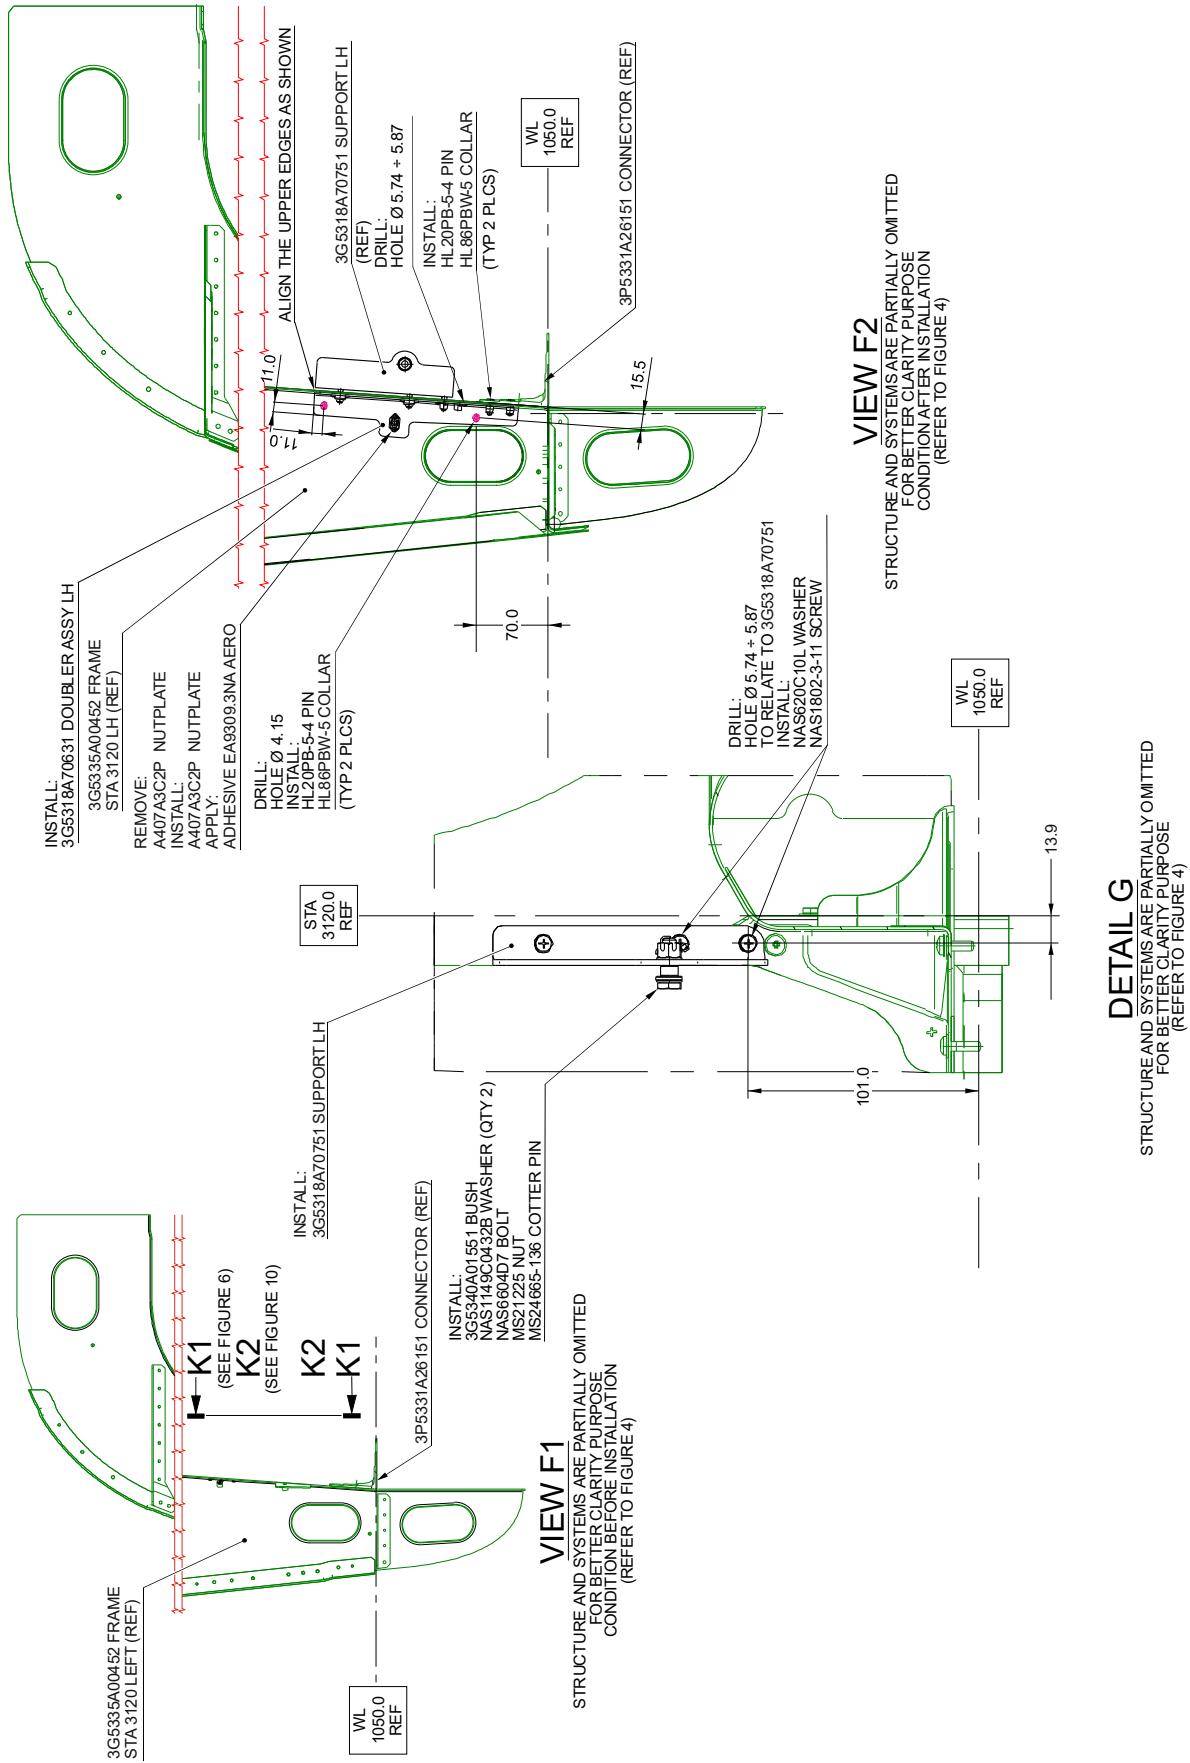
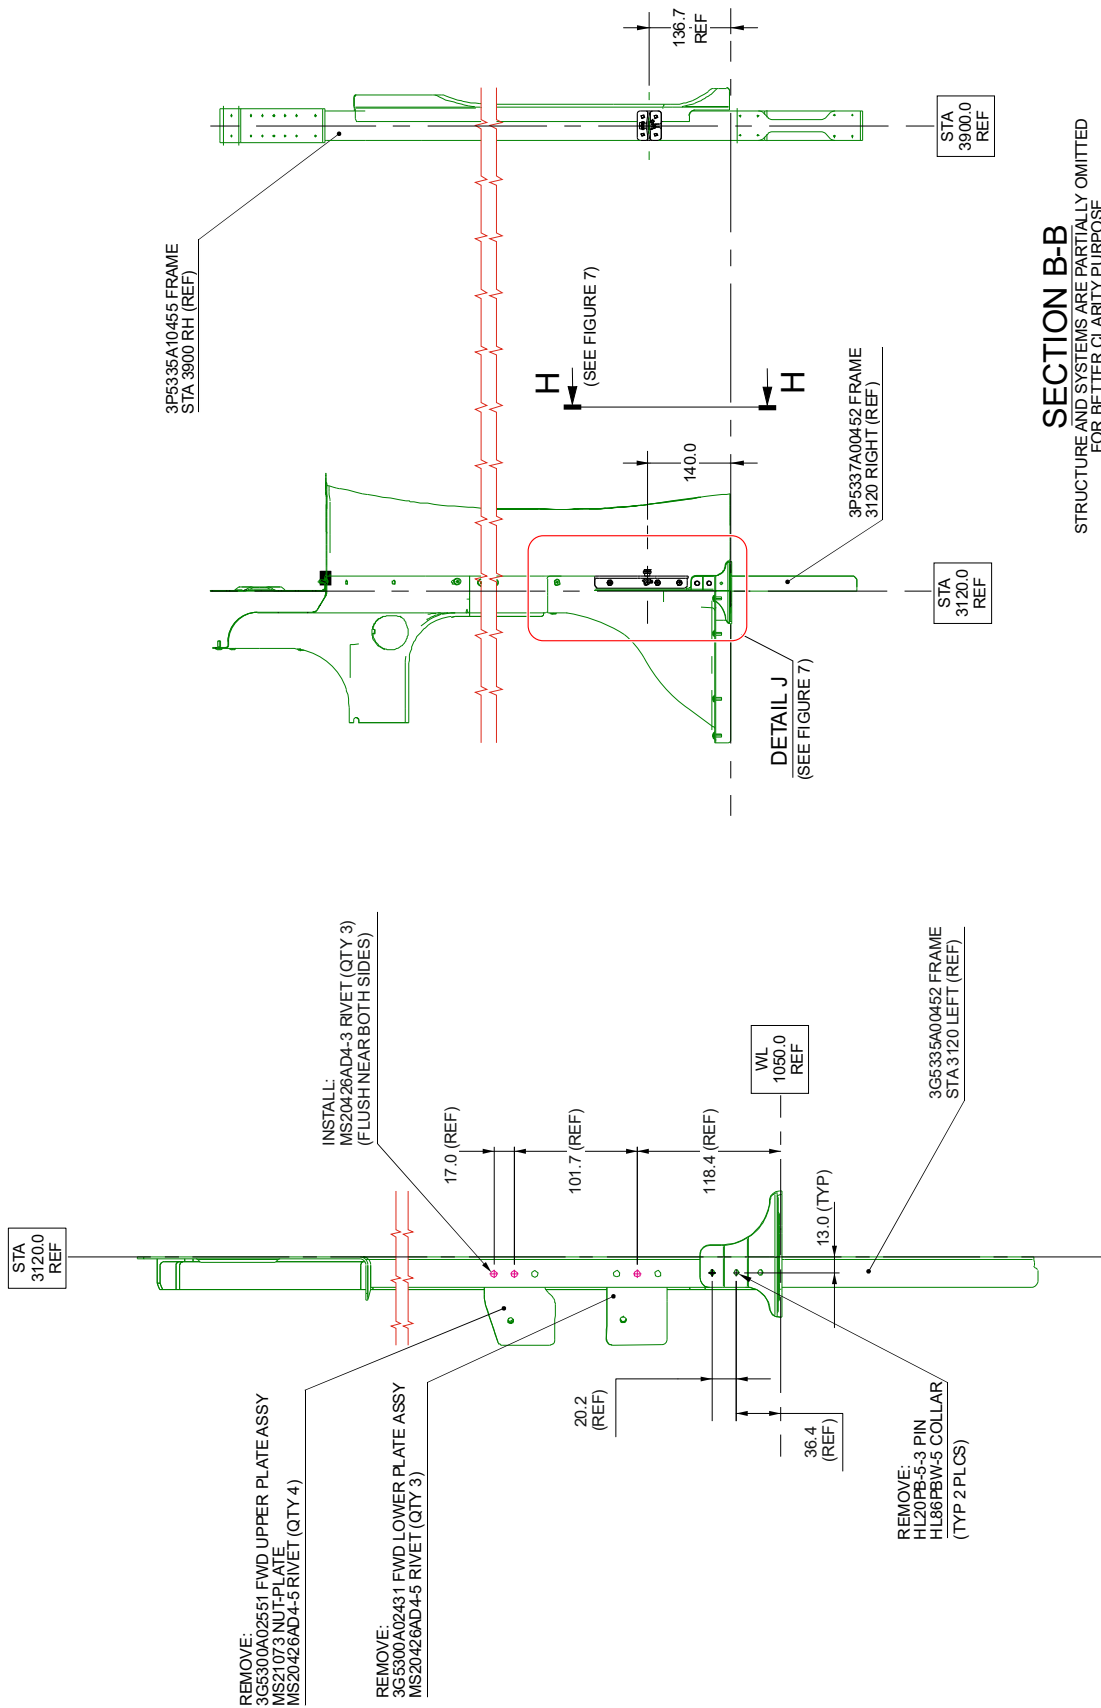
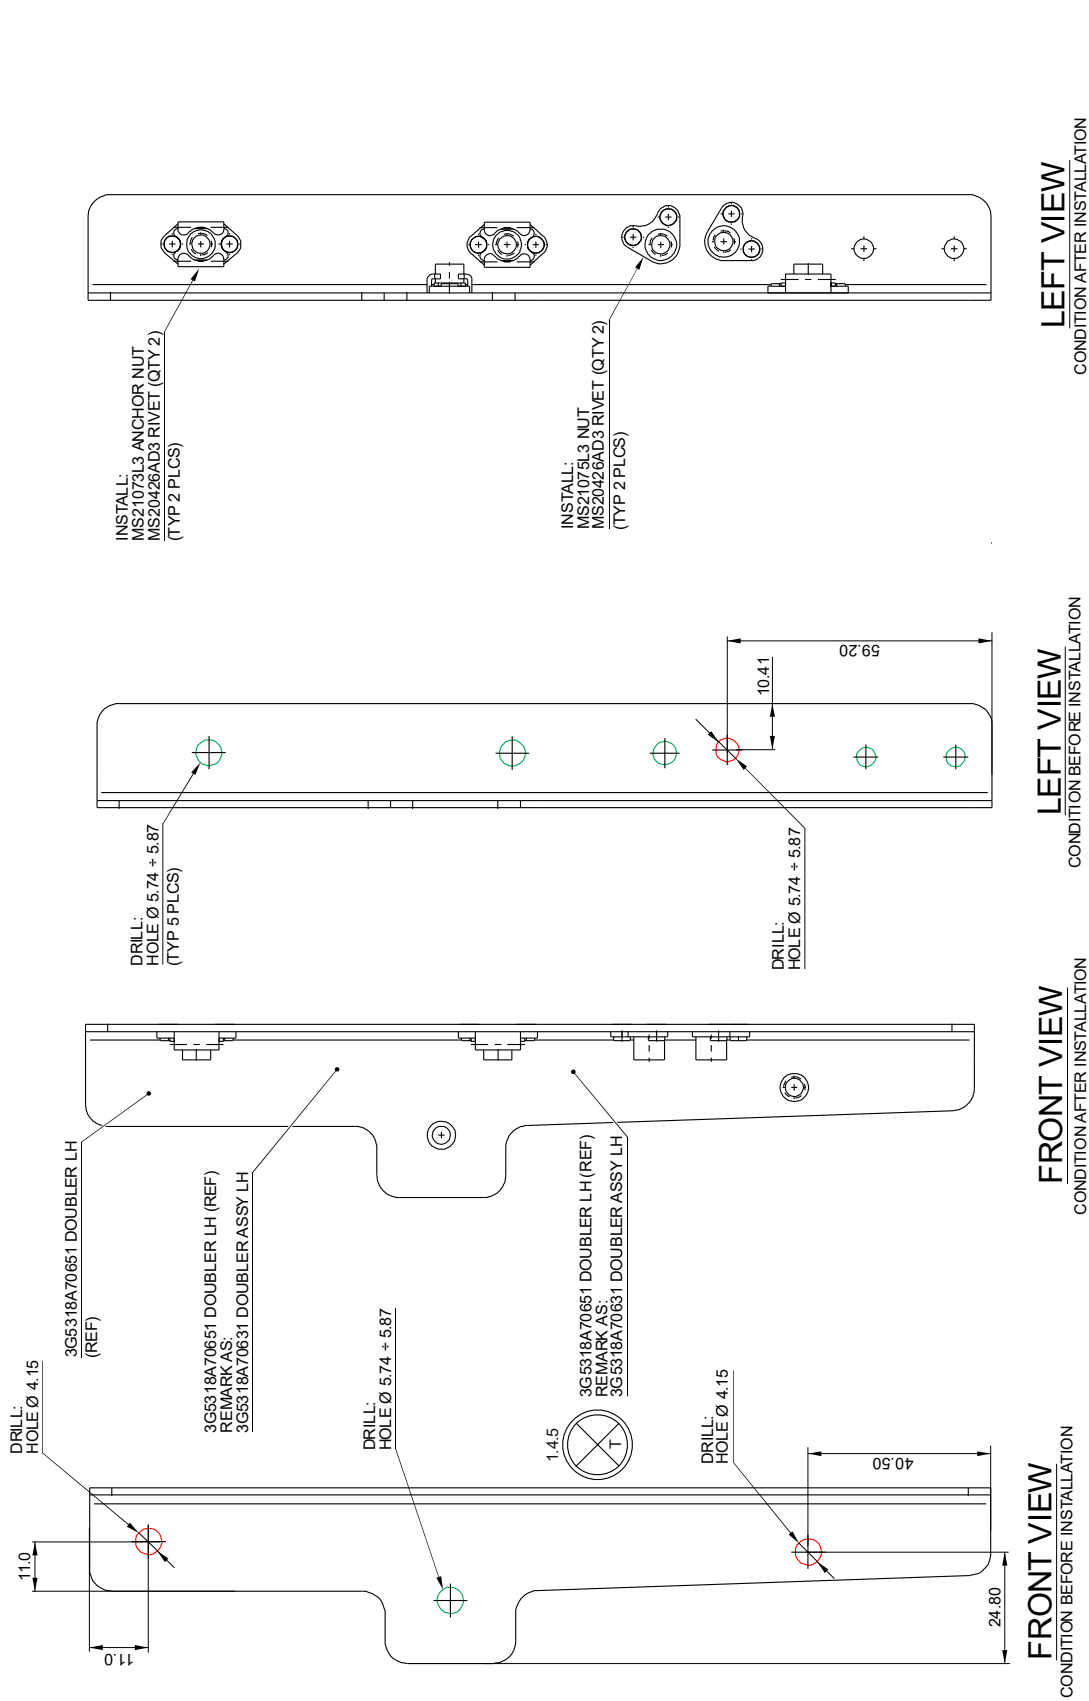

Figure 5
Figure 6
Figure 8
- 4.11 With reference to Figure 5 View F1, remove the nut-plate P/N MS21073L3 and n°2 rivets P/N MS20426AD3 (WL 1200) from the frame STA 3120 left P/N 3G5335A00452.
- 4.12 With reference to Figure 5 View F1 and Figure 6 View K1, remove n°2 pin-rivets P/N HL20PB-5-3 and n°2 pin-rivet collars P/N HL86PBW-5 from the connector
- 4.13 With reference to Figure 6 View K1, install n°3 rivets P/N MS20426AD4-3 on the frame STA 3120 left P/N 3G5335A00452 in accordance with the dimensions shown.
- 4.14 With reference to Figure 5 Detail G, temporarily locate the support LH P/N 3G5318A70751 on the frame STA 3120 left P/N 3G5335A00452 and countermark n°2 hole-positions on the frame in accordance with dimensions shown and the existing hole (WL 1253.1).
- 4.15 With reference to Figure 5 Detail G, drill n°2 holes $\varnothing 5.74 \pm 5.87$ thru the frame STA 3120 left P/N 3G5335A00452 in the previously countermarked positions.
- 4.25 With reference to Figures 5 and 8, assemble the doubler assy LH P/N 3G5318A70631 as described in the following procedure:
- 4.25.1 With reference to Figure 8, drill the hole $\varnothing 5.74 \pm 5.87$ and n°2 holes $\varnothing 4.15$ thru the doubler LH P/N 3G5318A70651 in accordance with the dimensions shown.
- 4.25.2 With reference to Figure 5 View F2, temporarily locate the doubler LH P/N 3G5318A70651 on the frame STA 3120 left P/N 3G5335A00452 and countermark n°6 hole-positions on the doubler LH.
- 4.25.3 With reference to Figure 8, drill n°6 holes $\varnothing 5.74 \pm 5.87$ thru the doubler LH P/N 3G5318A70651 in the previously countermarked positions.
- 4.25.4 With reference to Figure 8, remark the doubler LH as doubler assy LH P/N 3G5318A70631.
- 4.26 With reference to Figure 5 View F2, temporarily locate the doubler LH P/N 3G5318A70651 on the frame STA 3120 left P/N 3G5335A00452 and countermark n°3 hole-positions on the frame.
in Figure 8 are only for reference. Their shape and P/N
- 4.27 With reference to Figure 5 View F2, drill the hole $\varnothing 5.74 \pm 5.87$ and n°2 holes $\varnothing 4.15$ thru the frame STA 3120 left P/N 3G5335A00452 in the previously countermarked positions.
- 4.28 With reference to Figure 5 View F2 and Figure 8, install n°2 anchor nuts P/N MS21075L3 and n°2 anchor nuts P/N MS21073L3 on the doubler assy LH P/N 3G5318A70631 and on the frame STA 3120 left P/N 3G5335A00452 by means of n°8 rivets P/N MS20426AD3.
- 4.29 With reference to Figure 5 View F2, install the doubler assy LH P/N 3G5318A70631 on the frame STA 3120 left P/N 3G5335A00452 by means of n°2 pin-rivets P/N HL20PB-5-4 and n°2 pin-rivet collars P/N HL86PBW-5 and fix to the connector P/N 3P5331A26151 by means of n°2 pin-rivets P/N HL20PB-5-4 and n°2 pin-rivet collars P/N HL86PBW-5.
- 4.30 With reference to Figure 5 View F2, install the nut plate A407A3C2P on the doubler assy LH P/N 3G5318A70631. Apply the adhesive EA9309.3NA aero (C021).
- 4.31 With reference the Figure 5 Detail G, install the support LH P/N 3G5318A70751 on the frame STA 3120 left P/N 3G5335A00452 by means of n°3 washers P/N NAS620C10L and n°3 screws P/N NAS1802-3-11.
- 4.32 With reference to Figure 5 Detail G, install the bush P/N 3G5340A01551, n°2 washers P/N NAS1149C0432B, the bolt P/N NAS6604D7 and the nut P/N MS21225-4 on the support LH P/N 3G5318A70751 (frame STA 3120 LH P/N 3G5335A00452). Safety by means of the cotter pin P/N MS24665-136.